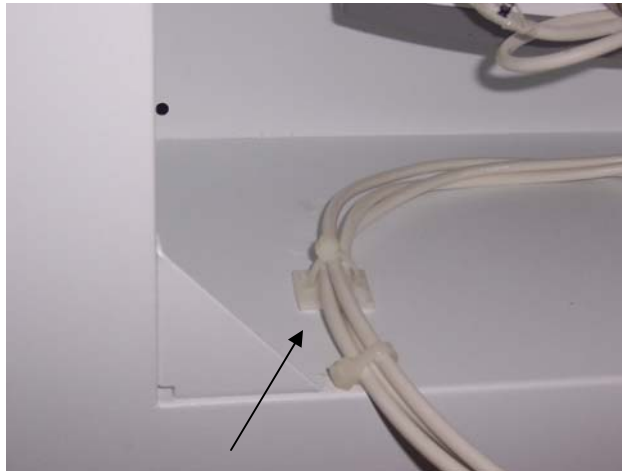

Figure 4
- Consider cable management. Cable may be neatly positioned in the enclosure using customer provided zip ties and zip tie mounting pads - not included with the enclosure (reference Figure 4).